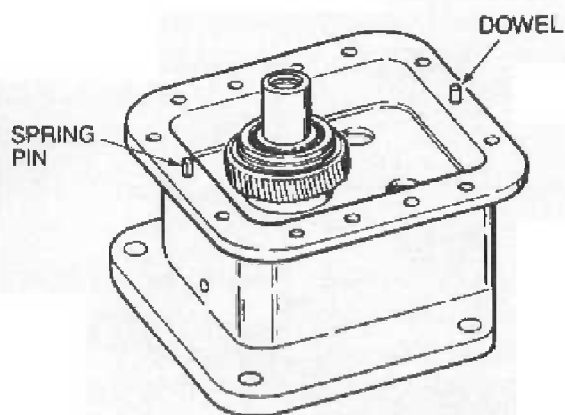

Figure 35 — Reducer assembly
4. Install the solid dowel pin and hollow spring pin halfway into the housing flange as shown in Fig. 35. DO NOT place the High Shaft or Intermediate shaft assemblies into the housing at this time.
2. Refer to Fig. 35. Install dowel and spring pins halfway into the output housing flange.